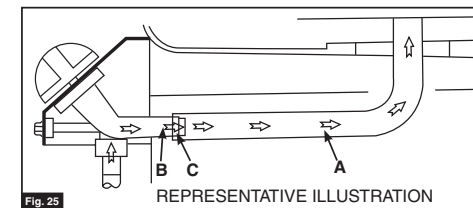

Fig. 25
- Check that all the burner venturi [A] are set over the valve outlets [B] correctly. The valve orifice [C] must be inside the venturi. (Fig. 25)